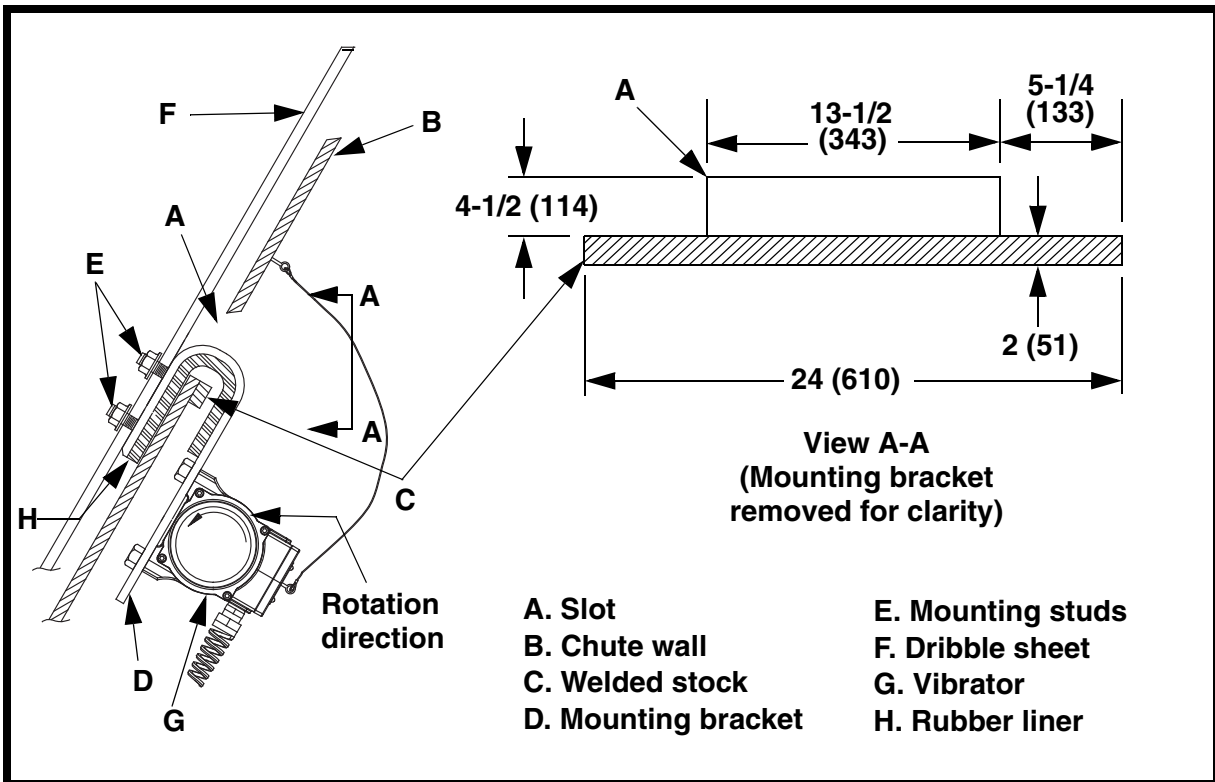

Figure 2. Dimensions for Slot and Welded Stock
1. See Figure 2. Determine where to cut mounting slot (A) in chute wall (B). Center slot under belt parallel to belt width.
3. If chute wall is less than 1/4 in. (6 mm) thick, weld a piece of flat stock (C) 3/8 x 2 x 24 in. (9 x 51 x 610 mm) to the chute wall as shown in Figure 2.
4. Insert mounting bracket (D) through slot and hang on chute wall so mounting studs (E) are inside the chute.
1. Install dribble sheet (F, Figure 2) onto mounting studs and secure with hex nuts and washers. Hand-tighten hex nuts to snug so dribble sheet does not crack from over-tightening.
2. Install vibrator (G) to mounting bracket according to *Martin*® *Zero-Frame Electric Vibrators Operator's Manual*, P/N M3892.
2. Ensure eccentric weights on vibrator rotate in direction shown in Figure 2.
3. Check dribble sheet (F, Figure 2) to ensure minimum clearance is maintained. If belt has sagged, adjust vibrating dribble chute to prevent damage.
4. Make sure rubber liner (H) on mounting bracket (D) is not worn. If it is, replace as follows:
- a. Remove vibrator (G, Figure 2) and dribble sheet from mounting bracket.
- b. Remove mounting bracket from slot (A) in chute wall (B).
Chute wall beginning to tear.	Chute wall too thin. Weld a piece of flat stock to chute wall (see Figure 2).